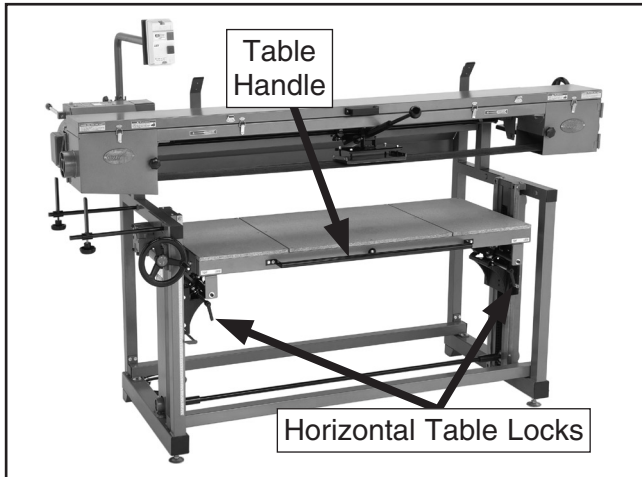

Figure 38. Horizontal table movement.
1. Make sure the horizontal table travel locks are released by rotating them counterclockwise until the table moves freely (**Figure 38**).